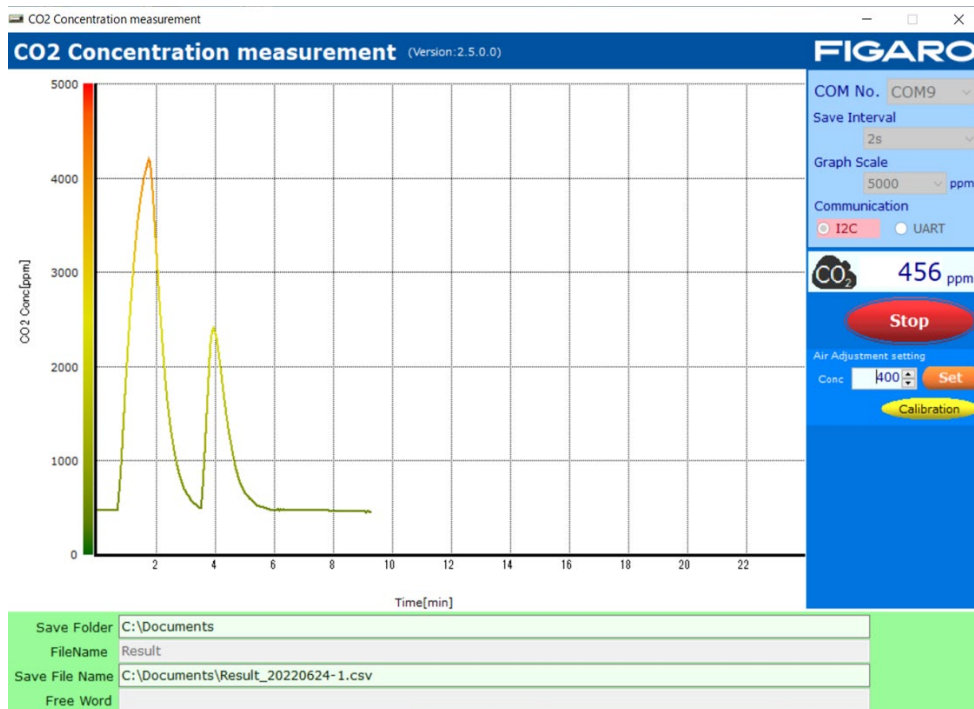

Figure 9 - Measurement Data Display Example
(11) Starting measurement
- The screen displays data from the most recent 10 minutes of measurement data for a measurement session (see Figure 9).